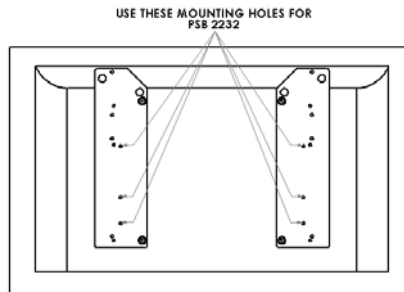
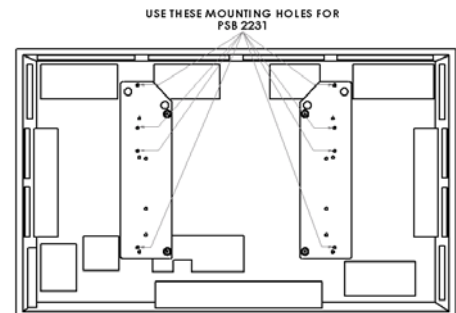

Figure 3
Figure 4
2. Attach the mounting brackets to the display [For the 46" (PSB-2231) display use all eight screws and for the 42" (PSB-2232) display use only six screws (see Figure 3 & Figure 4)].